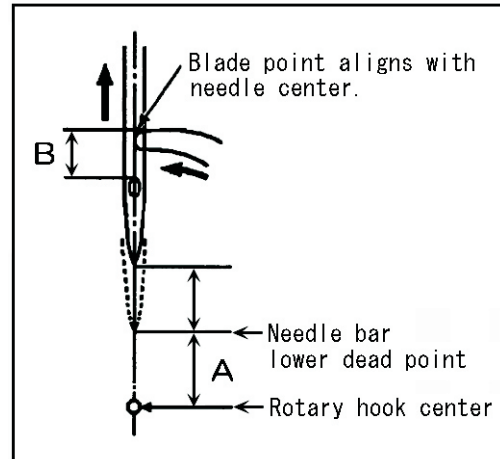

Fig.1
1. Measure the distance (A) between the rotary hook center and the needle point when the needle bar is brought to the lower dead point by turning the hand wheel counterclockwise. (Fig. 1)
2. Measure the distance (B) between the upper end of needle hole and the upper end of rotary hook blade point when the rotary hook blade point is aligned with the needle center by turning the hand wheel further.
B (Reference) = 1.0 ± 0.2 mm (Fig. 1)
3. Adjust the needle bar height.(Fig. 1)